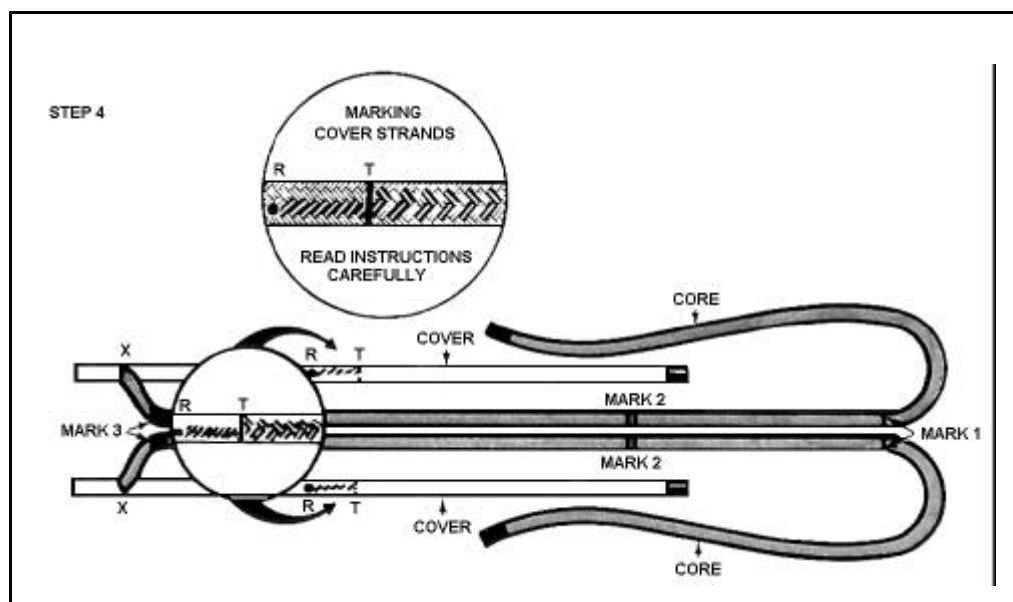

Figure 12-69. Marking the Cover for Tapering
- STEP 4 -- Marking the cover for tapering.** Note nature of the cover braid (see Figure 12-69). It is made up of strands. On inspection you can see that half the strands revolve to the right around the line and half revolve to the left. Beginning at point R and working toward the taped end of cover, count eight consecutive pairs of cover strands, which revolve to the right (or left). Mark the eighth pair. This is point T (see insert). Make Mark T go completely around cover. Starting at point T and working toward taped cover end, count and mark every second right pair of strands for a total of six. Again, starting at point T, count and mark every second left pair of strands for a total of six (see insert). Mark both lines identically.